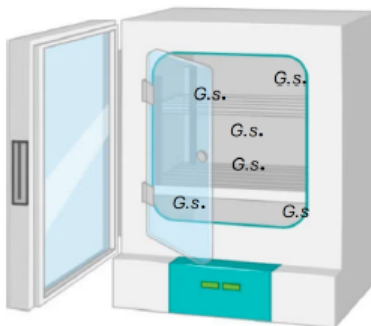

Figure 1
**Biological indicators (BIs)** are spores at least 106 spores of *Geobacillus stearothermophilus* in a culture tube. The spores are inoculated onto a stainless steel disc and placed into the culture with an ampule of growth medium with growth indicator dye as illustrated in Figure 2. BIs are placed in the incubator chamber as exemplified in Figure 1 and noted (with results in) Table 1. At the end of the treatment cycle, the BIs are incubated at 57°C for 24 hrs (Terragene) or 7 days (Mesa Labs) and noted for color change (purple to yellow indicates spore growth, not effectively killed). No changes indicates at least a log 6 reduction in spores. Spore level of BIs range from 1.6 x 106 to 2.4 x 106, D-values range from 1.1 min @ 2mg/L to 2.4 min @ 2 mg/L